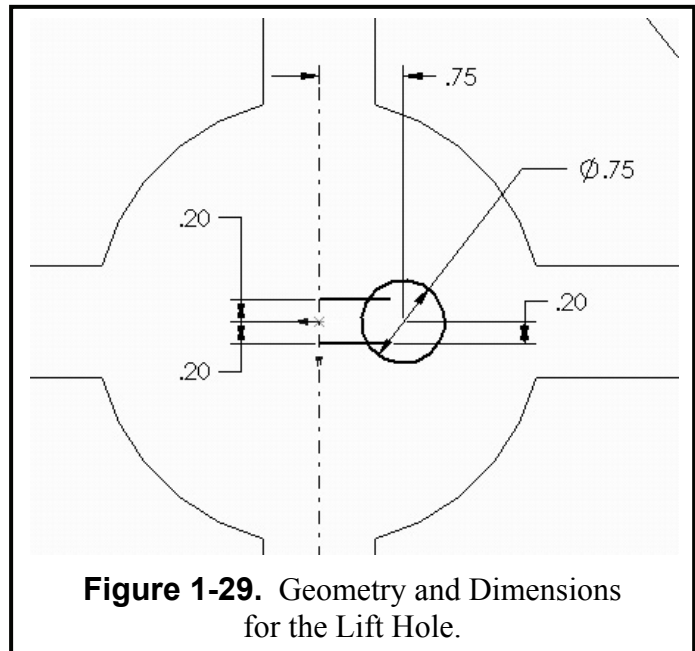

Figure 1-29. Geometry and Dimensions for the Lift Hole.
Now create the lift hole in the middle of the plate. Click the cursor on the top center surface of the cover plate (it should turn *cyan*). Also, select a **Top** view orientation. You might also need to **Zoom** in to see the center portion better. Click the **Sketch** icon to get into the sketching mode. Since the lift hole is symmetric about the origin, you can use a mirror function. So start by drawing a vertical **Centerline** (CL) through the origin. Draw a small **Circle** to the right side of the centerline. Then draw two parallel **Lines** that start at the centerline and go through part of the circle, as indicated in **Figure 1-29**. Now apply the following inch **Dimensions** to the sketch geometry.